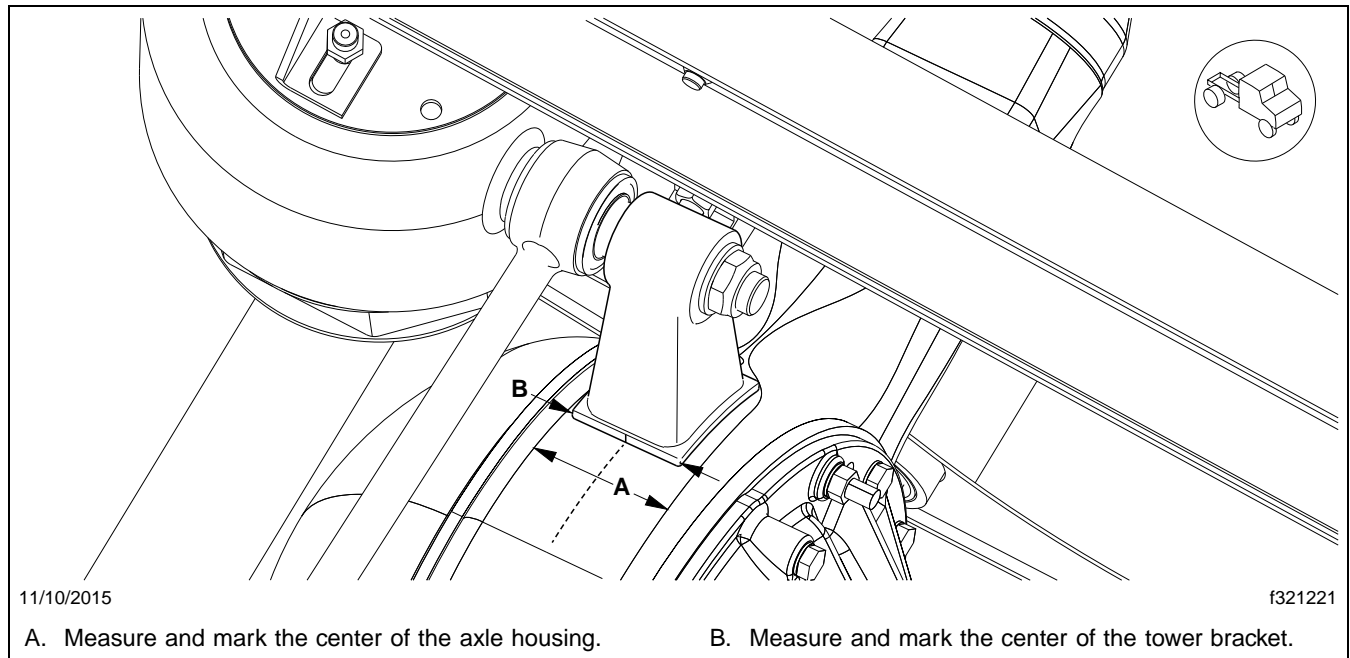

Fig. 3, Aligning the Tower Bracket and Axle Housing
18. Mark the center of axle and the center of the tower bracket for ease of alignment when tack welding the bracket to the housing. See **Fig. 3**.